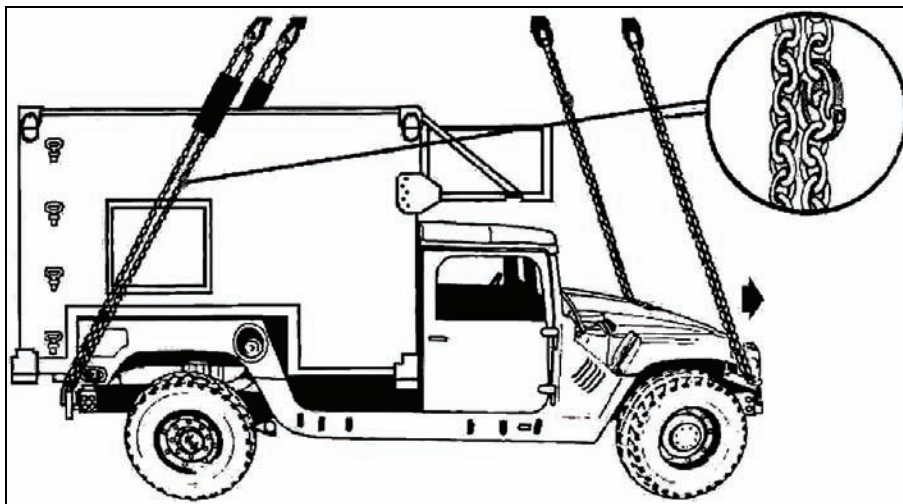

Figure 3-95. Load With Four-Lift Points
3. Check the rigging to ensure it will not become entangled with the load (see Figure 3-95).